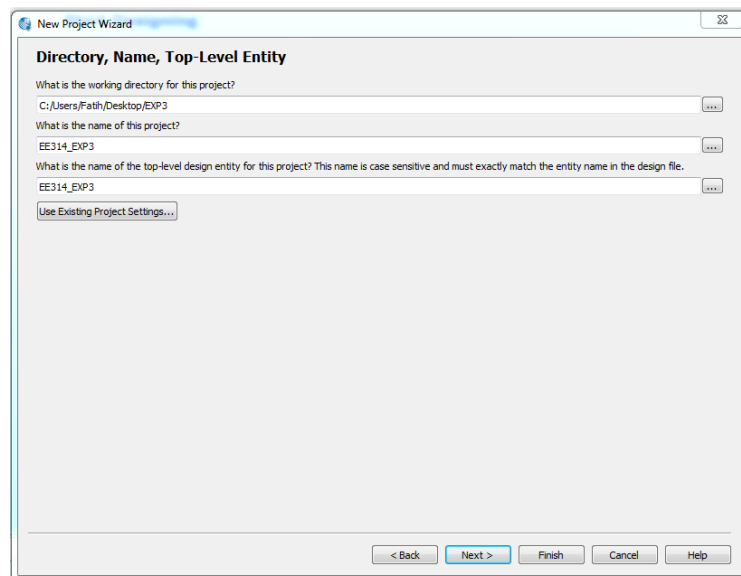

Fig. 3: Assigning working directory and project name
- C.1) Open Quartus II software and create a new project using Project Wizard (**File>New Project Wizard**) and name it as *EE314_EXP3* as shown in Fig. 3. You can create a new directory on Desktop and set it as the working directory.